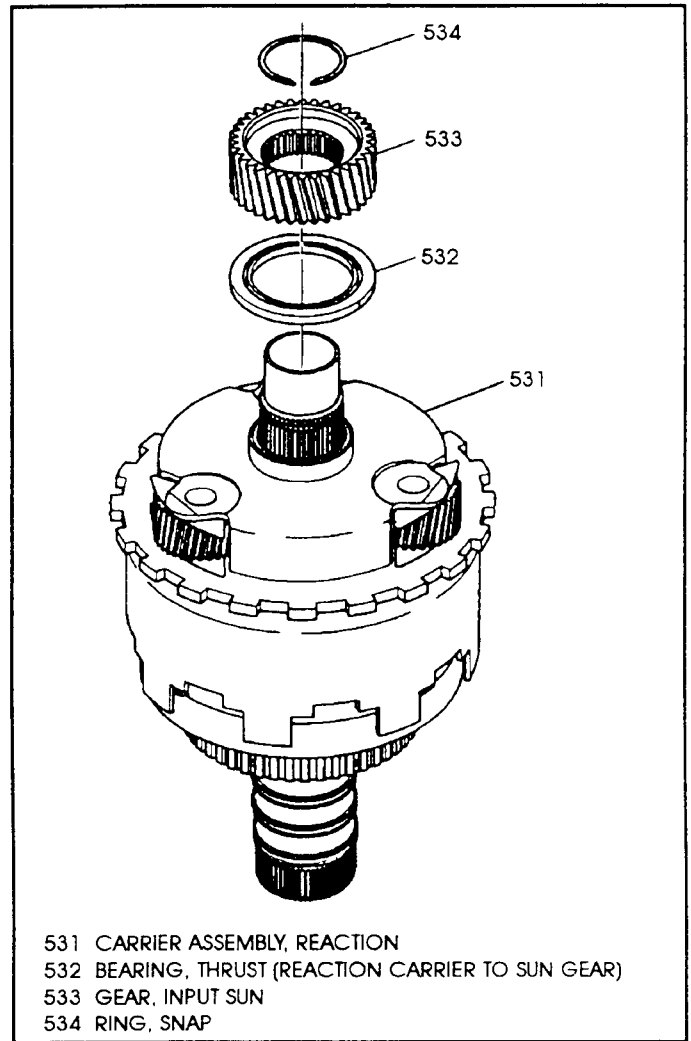

Figure 140
38. Install the reaction carrier (531) onto reaction sun gear by rotating the reaction carrier to mesh the sun gear teeth with the pinion gears, until fully seated as shown in Figure 140.
39. Install the reaction carrier to input sun gear bearing (532) on the reaction carrier assembly as shown in Figure 140.
40. Install the input sun gear (533) onto the input sun shaft, as shown in Figure 140.
41. Install the input sun gear snap ring (534) onto the input sun shaft as shown in Figure 140.